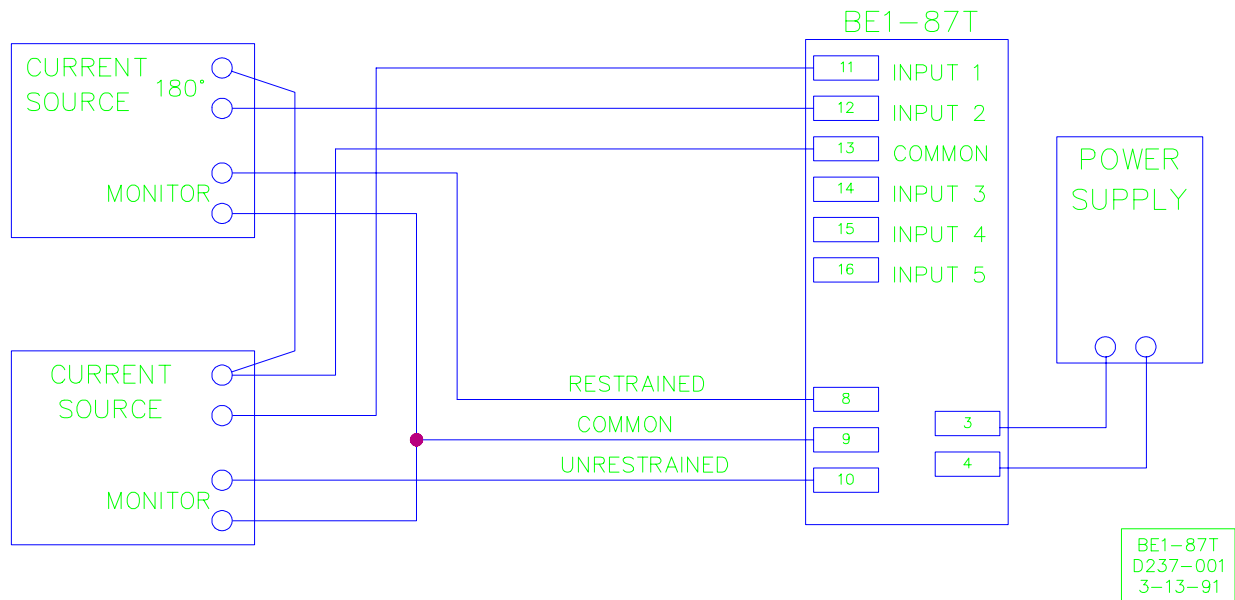

Figure 5-2. Test Setup: Single-Phase
- Step 1.** Connect the relay as appropriate (refer to Figures 5-2 through 5-5), beginning with input terminals 11 and 13 for the initial tests. Do not apply power at this time.
Step 9. Three-Phase Units Only: Repeat Steps 6, 7 and 8 for phases B and C. (Refer to Figures 5-2 through 5-5, as appropriate, for the terminal numbers of the phase B and C inputs.)
- Step 2.** Connect the input being tested to the current source, as shown in the appropriate **TEST SETUP**, Figures 5-2 through 5-5.
- Step 1.** Set the **INPUT 1** (tap) switches to the 2.0 A position. Connect the relay as appropriate (refer to Figures 5-2 through 5-5), using terminals 11 & 13 (Input 1 for both Single-Phase and Three-Phase Units).
- Step 1.** Set the **INPUT 1** (tap) switches to the 2.0 A position. Connect the relay as appropriate (refer to Figures 5-2 through 5-5), using terminals 11 & 13 (Input 1 for both Single-Phase and Three-Phase).
- Step 1.** Connect the relay as appropriate (refer to Figures 5-2 through 5-5).